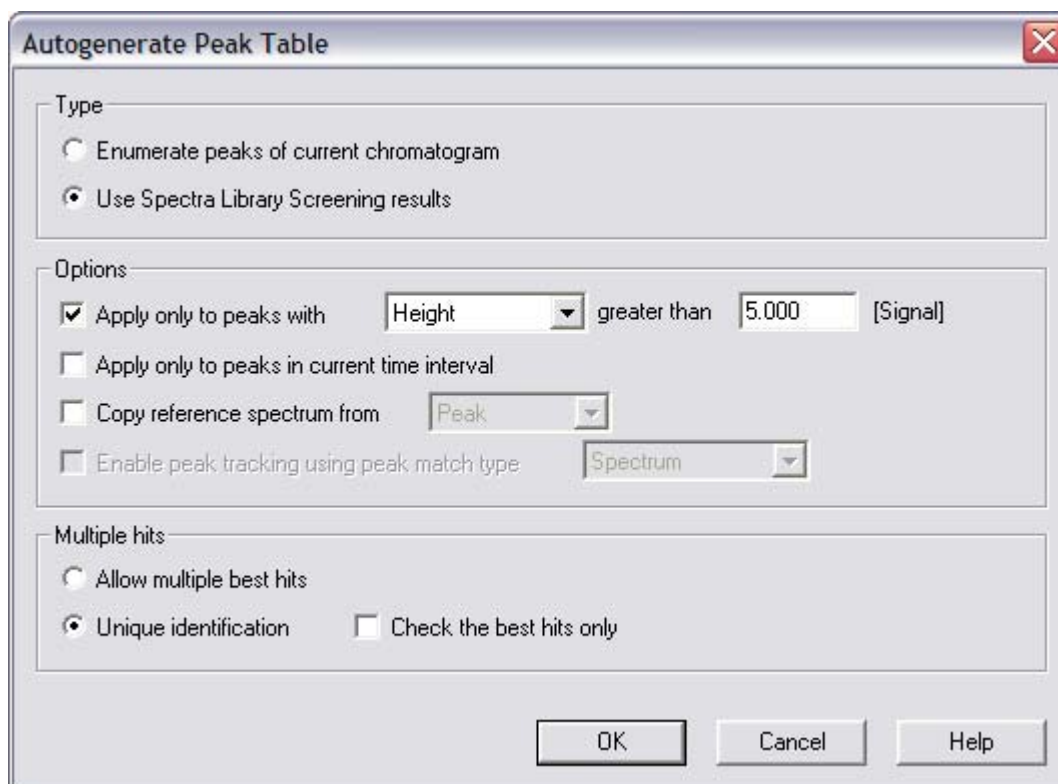

FIGURE 3-11: Autogenerate Peak Table options.
3. Right click on a row in the Peak Tracking tab of the Method Editor and selecting the **Autogenerate Peak Table** option. The window in FIGURE 3-11 will be shown.
If a UV detector, such as the VWD-3x00, is used, it is not possible to identify the peaks automatically. If an overall average resolution for the compounds is the criterion for the method validation, there is no need to identify the compounds in the sample. It is possible to use **Autogenerate Peak Table** in the **Peak Table** of the method editor without any Spectra Library. Select **Enumerate peaks of current chromatogram** (FIGURE 3-11) in the **Autogenerate Peak Table** options.